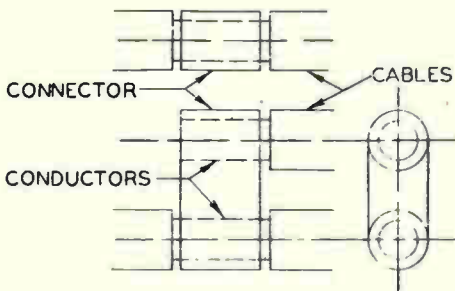

Fig. 6-15
- CT-P Parallel gutter type cable tap. Fig. 6-15.